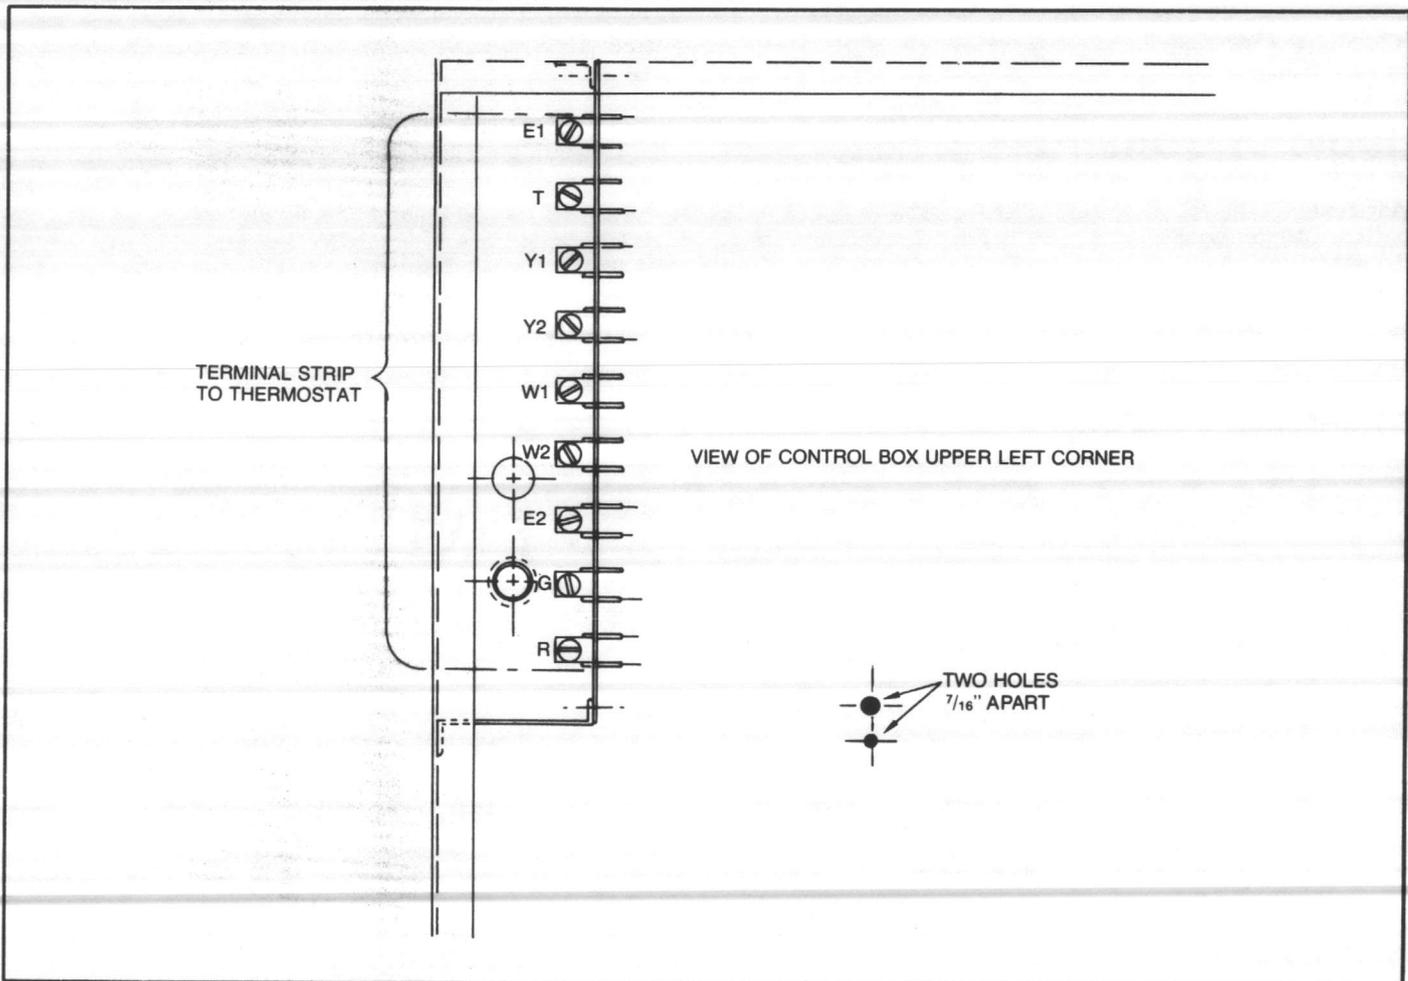

Figure 1 - A Typical View of Two Holes Near Control Box Terminal Strip
2. Find the set of two holes near the control panel thermostat terminal strip. See Figure 1. These holes are approximately $\frac{7}{16}$ -inch apart. The larger hole is for the mounting screw that passes through the center of the ASCT. The smaller hole is for the antirotation pin on the base of the timer. Position the timer properly and tighten the single screw.
2. Find the set of two holes near the control box terminal strip. See Figure 1 for typical view. The holes are approximately 7/16-inch apart. The larger hole is for the mounting screw that fits through the center of the TDR. The smaller hole is for the anti-